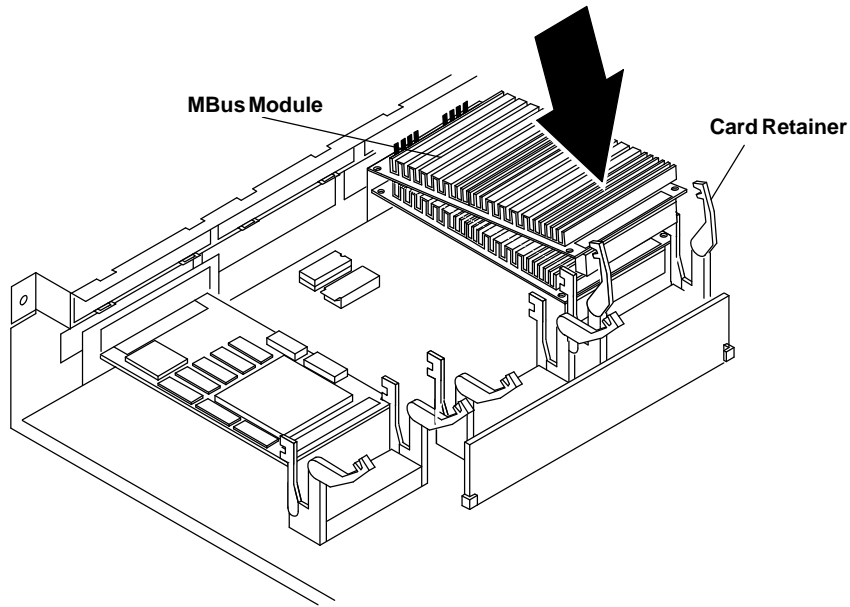

Figure 4-9. Installing the MBus Module
2. Make sure the card retainers for the module are pushed back. Refer to Figure 4-9.
The connector on the module should be facing MBus slot 1, the upper slot. Refer to Figure 4-9.
5. Push the module connector down into the socket as shown in Figure 4-9. Hold the corners of the MBus module and press down firmly until the module is seated.